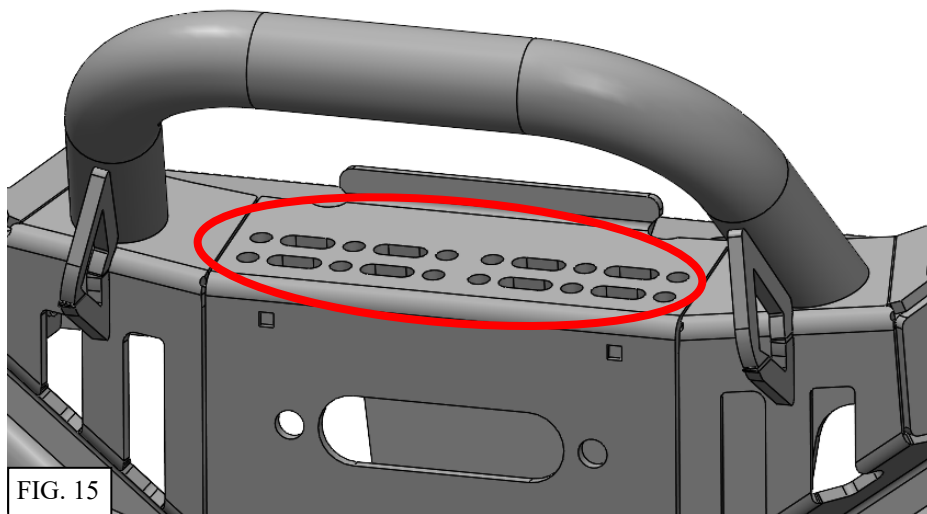

FIG. 15
- This bumper allows for the mounting of two 3" square auxiliary lights at the location shown below using M8 hardware (Fig. 15).